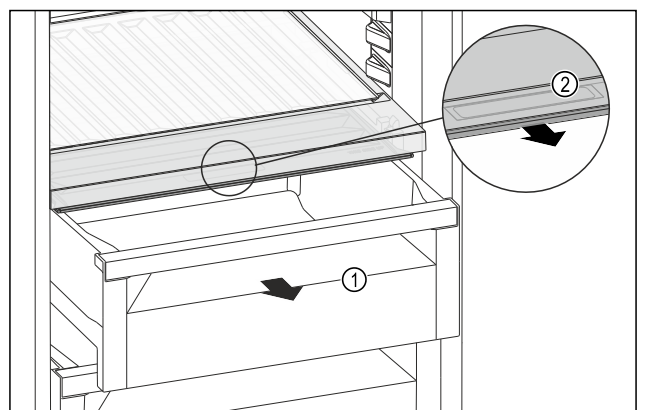

Fig. 107
- ▶ Pull out the drawer Fig. 107 (1).
- ▶ Grasp the recessed grip Fig. 107 (2) on the compartment lid and pull the compartment lid forwards at the same time.